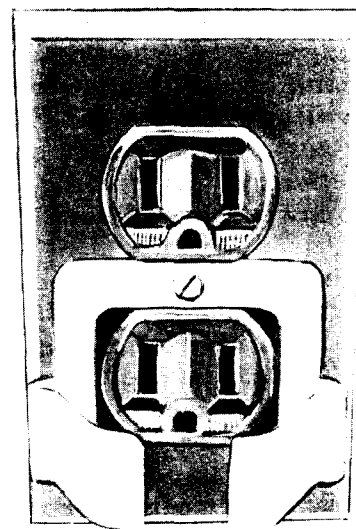

Fig. 20—841050818 Retaining Clamp Mounted on AC Outlet Box Using Outlet Cover Mounting Screw
the 85B1 power unit where additional mounting strength is needed, see Fig. 20.
13.02 The ac input to the unit is by means of two parallel blades for use in a standard two wire receptacle which serves as the mounting device. The ac output is available through screw terminals recessed in the plastic case. A retaining clamp (84105818) is available for use with the 95B1 power unit where additional mounting strength is needed, see Fig. 20.
Danger: For safety, securely attach retaining clamp to ac outlet using outlet cover screw **BEFORE** attempting to install 95B1 power unit. See Fig. 20. When removing 95B1 power unit, always unplug the power unit completely from the outlet **BEFORE** attempting to remove the retaining clamp. This will prevent the possibility of a loosened retainer clamp or metallic outlet cover making contact with the ac prongs of the 95B1 power unit when partially withdrawn from outlet. Do not use in 841050818 or similar retaining clamps on outlets where the cover mounting screw holds the duplex outlet in the box.